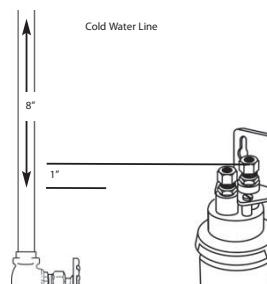

Figure 6
6. Measure down from filter inlet fitting about 1" (3 cm) and mark existing cold water tubing. From this mark, measure up 8" (20 cm) and mark tubing. This is the section of tubing to be removed. If necessary, because of tight situations, additional tubing may be cut away. (Figure 6)